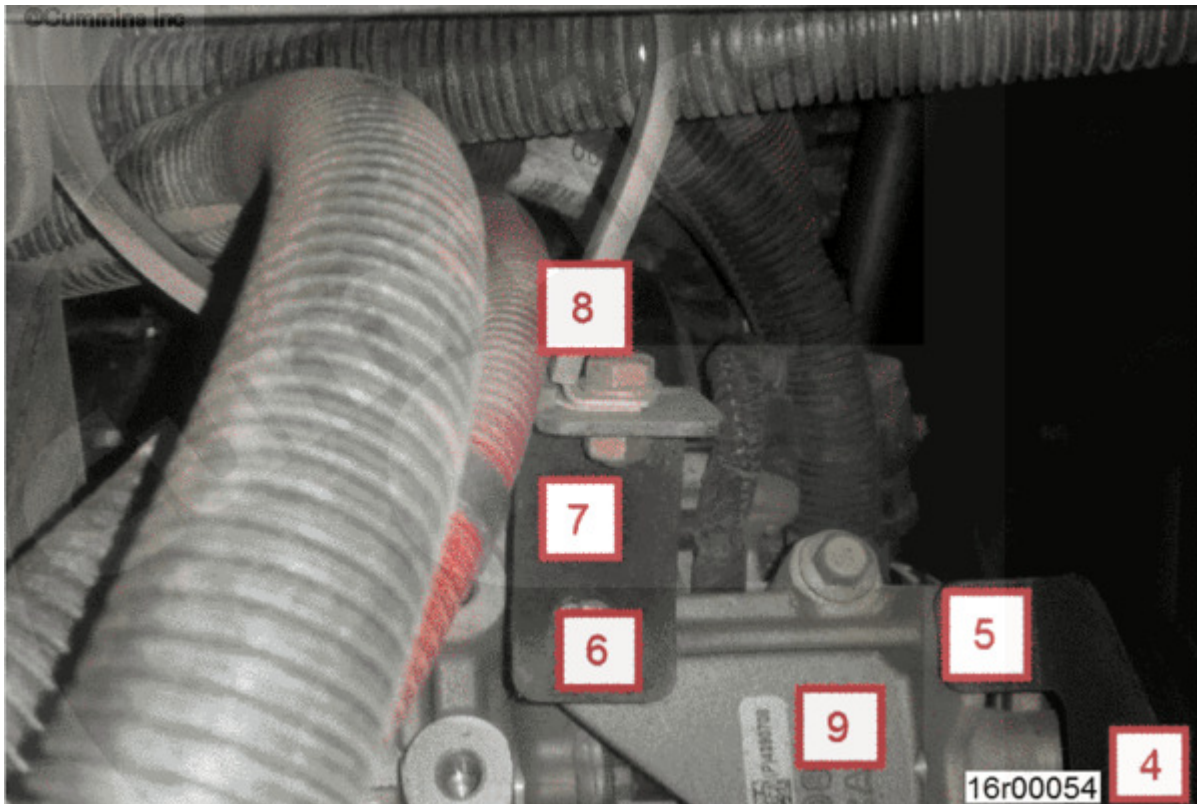

Figure 4, Lower Accessory Drive Mounting with L-Bracket and P-Clamp.
7. Remove L-Bracket (Figure 4 - 7) and P-clamp (Figure 4 - 8) assembly from lower accessory support, Part Number 4390708 (Figure 4 - 9).
8. Remove OEM lower fan shroud support bracket (Figure 4 – 4) mounted to lower accessory support bracket, Part Number 4390708, (Figure 4 - 9) and OEM fan shroud.
- a. Reuse p-clip mounting bracket (Figure 4 - 7), capscrews, washers, and nut at fan shroud position. (Figure 4) Tighten all fasteners to proper specifications.
9. Install Sanden refrigerant compressor on lower accessory support, Part Number 4390708 (Figure 4 - 9).
- d. Install second capscrew (Figure 4 - 6) through the L-bracket and P-clamp assembly (Figure 4 - 8) in upper mounting hole towards the rear of the engine.